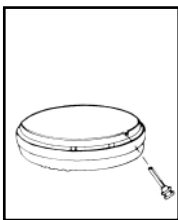

FIGURE 9
7. USING TAMPER RESIST LOCKING PIN (all models except i9040 and i9040RV): To make your smoke alarm tamper resistant, a locking pin has been provided in the bag with the screws and anchors. Using this pin will help deter children and others from removing the alarm from the mounting plate. To use the pin, insert it into the hole in the side of the alarm after the alarm has been installed on the mounting plate (see figure 9).